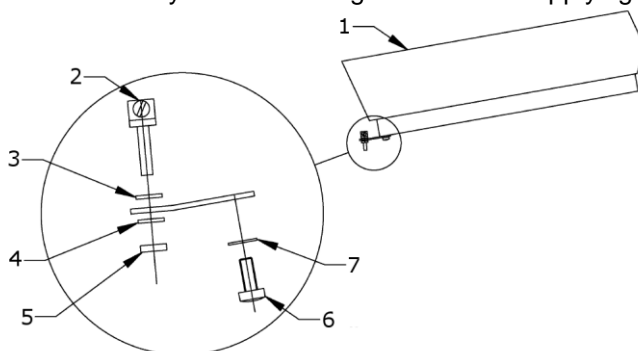

Fig. 3 Installation
13. Mount the washer nozzle bracket assembly onto the camera housing using the two M4 x 10 mm screws and fibre washers supplied, as shown in Fig. 3. Ensure that the screw penetration is not too great before inserting. Fit the 3 mm bore tube to the nozzle inlet taking care not to distort the bracket